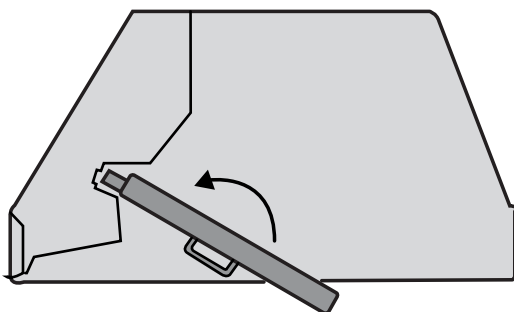

Figure 12
- Angle and insert one end of the filter into the upper channel of the range hood (Figure 12).